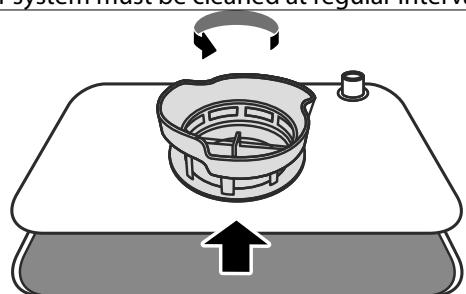

Fig. 19 – Loosening the fine filter
- To remove the filter system, turn the fine filter anti-clockwise (see Fig. 19).